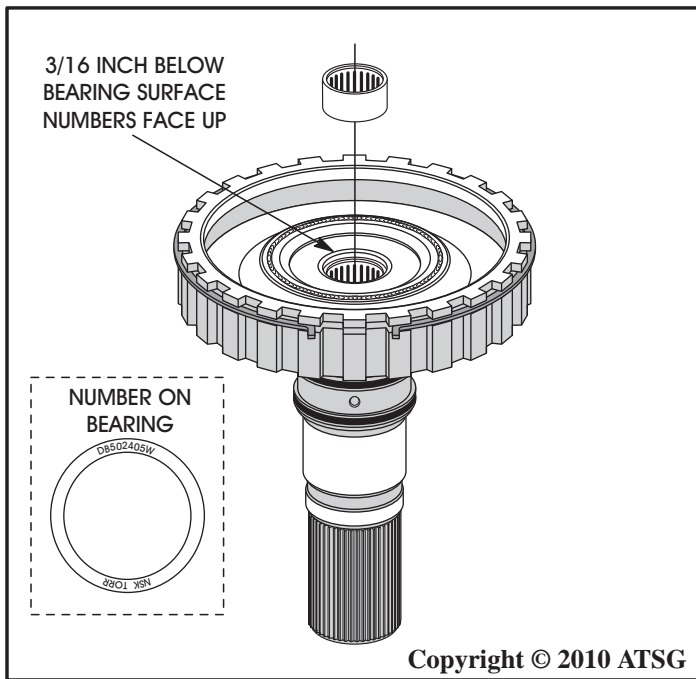

Figure 100
4. If the caged needle bearing in output shaft needs replacement, try one of the local bearing supply houses. Number DB502405W is on the bearing, as shown in Figure 100.